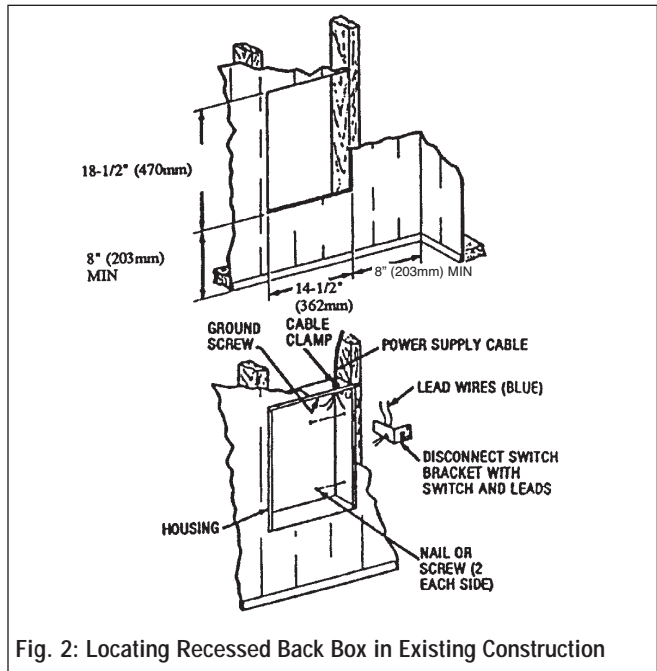

Fig. 2: Locating Recessed Back Box in Existing Construction
- Provide a wall opening 14-1/2" (362mm) wide by 18-1/2" (470mm) high at the desired mounting height, but no closer than 8" (203mm) from floor. (See Figure 2.)